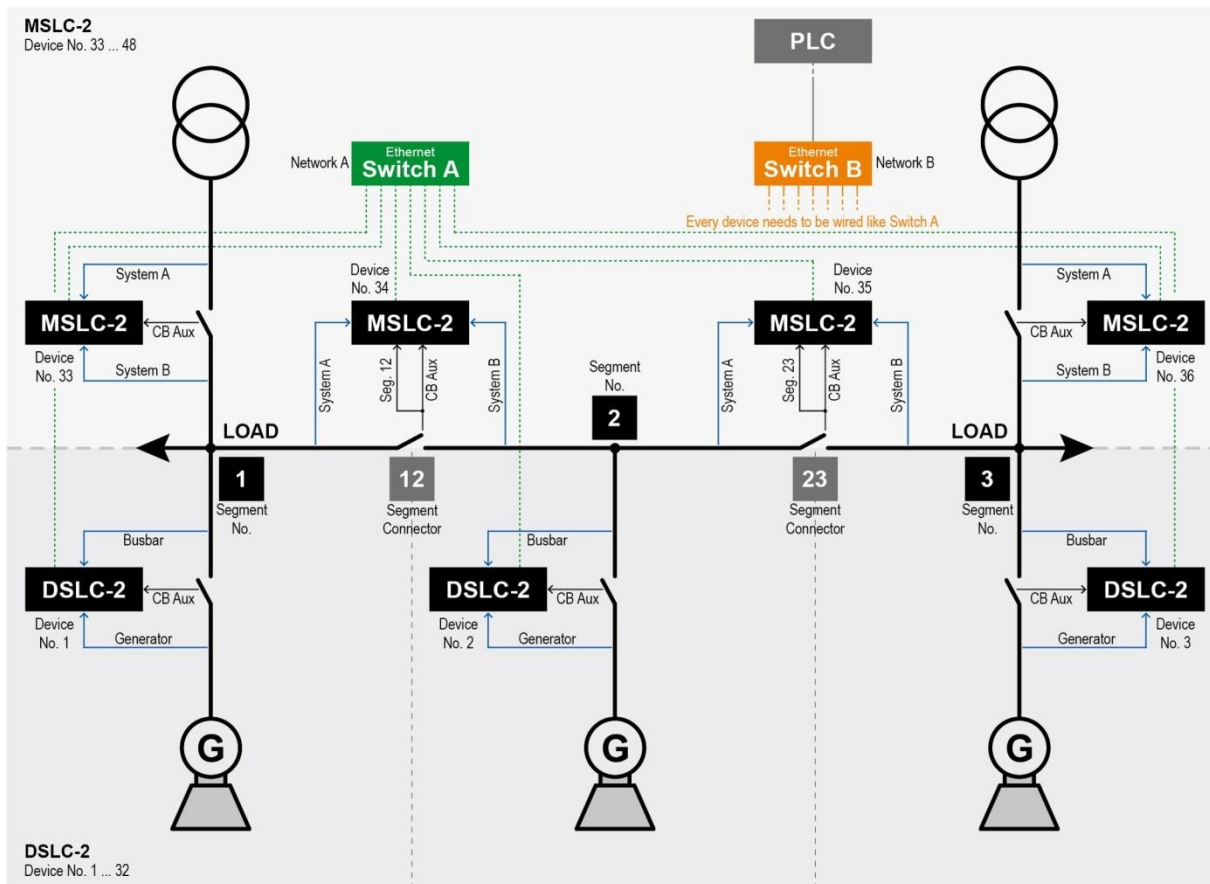

Figure 3-119: Example of an online diagram with networks in single mode
6. Draw the switches and networks for Ethernet channel A and B, if used (refer to Figure 3-119). According to the *Ethernet communication mode* ID 7809 a single or redundant load share line is established.